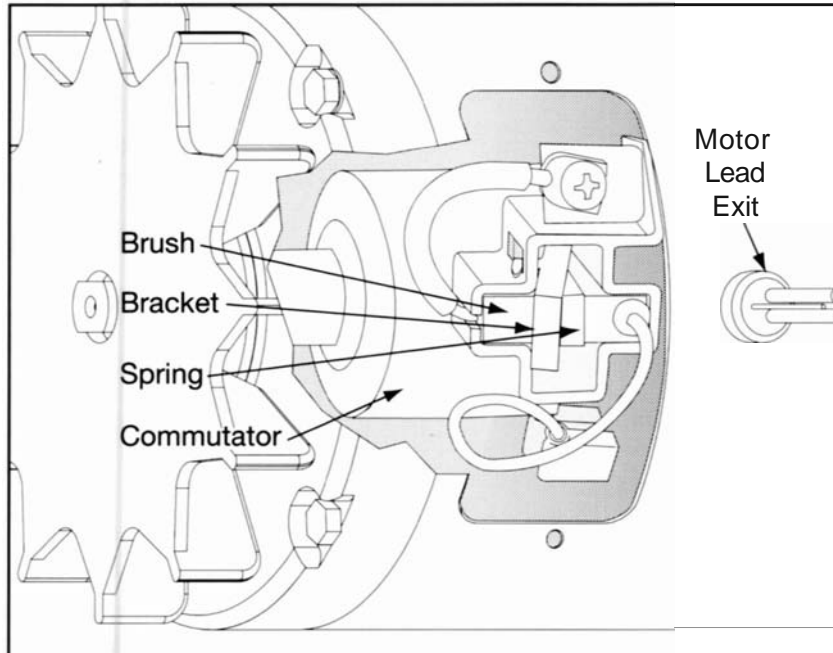

Figure 10
- A. Loosen, but don't remove, the top Phillips head screws and remove the red brush wires. See Figure 10.
- B. Unplug the yellow brush wear indicator wire on the brush that is toward the motor lead exit. See Figure 10. This brush wears 20% faster than the other brush.
- C. Place a spring and bracket over each brush. Hook the bracket in place. See Figure 10.